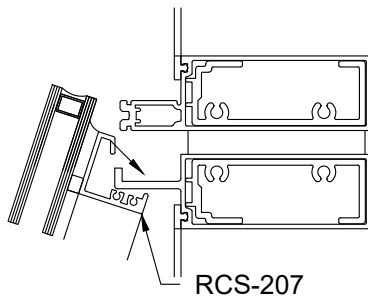

**FIGURE 45**
- 3.29 FIGURE 45 below shows the shear block assembly for the dual horizontal expansion assembly. Use the Reliance Installation Manual for typical wall assembly.